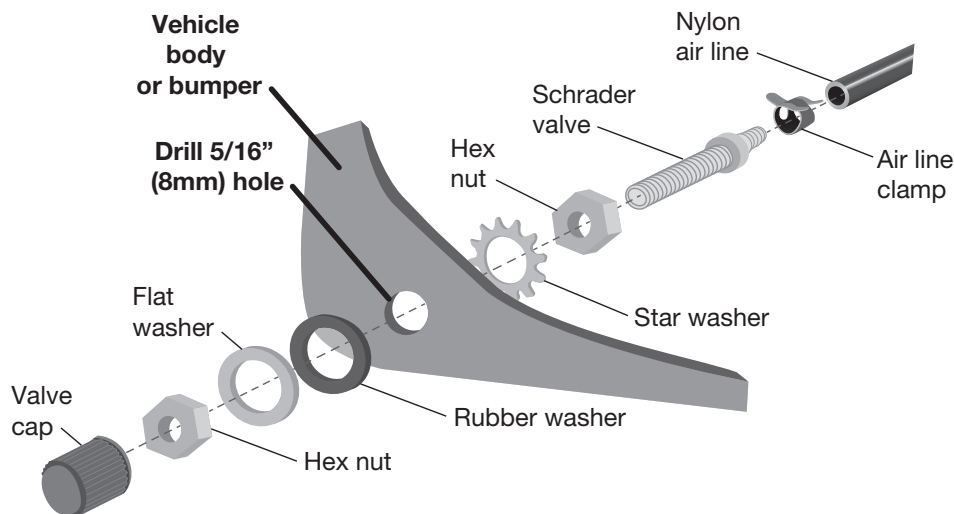

Fig. 19
6. Drill a 5/16" (8mm) hole for the Schrader valve (J) and mount as shown (Fig. 19). Install the air line on the Schrader valve first. The rubber washer (F) serves as an outside weather seal.